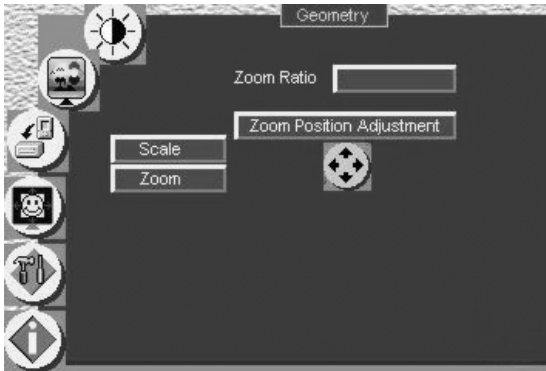

Figure 30: Geometry (Zoom Position Adjustment) Screen
- Using the OSD Menu buttons (see Figure 30)³